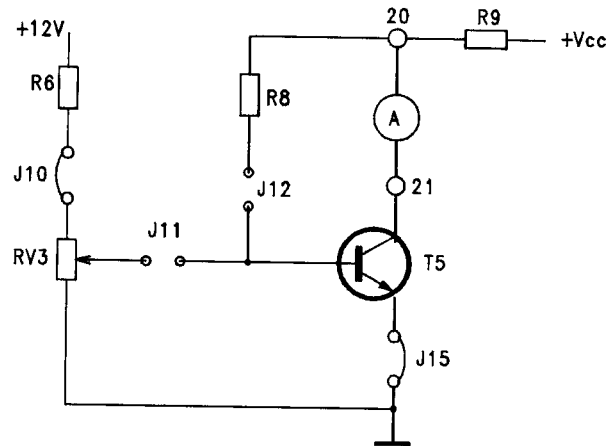

fig.B19.7
- Connect jumpers J12, J15 and the ammeter as in figure B19.7